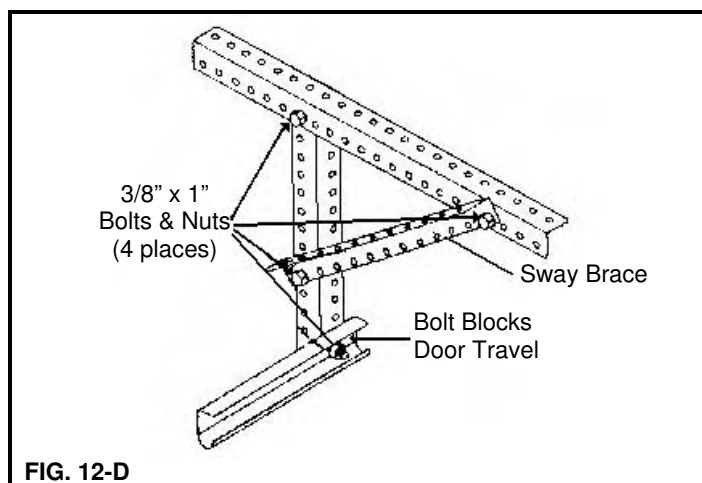

FIG. 12-D
Step 12-6: Continued: Adjust the position of the tracks if the squareness distances are not within 1/2" of each other. Horizontal track can be out of level up to 1" from front jamb to rear track hanger. (FIG. 12-E)